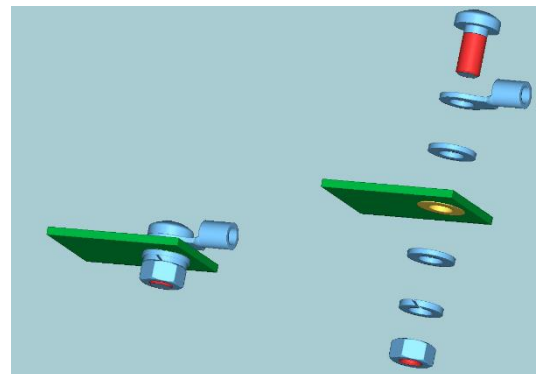

Figure 8: Power cables connector assembly
- a. Ring terminals to the PCB using the included bolt + washer + nut (according to Figure 8)